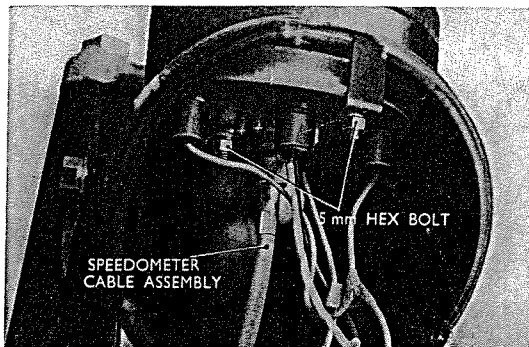

Fig. 4.15 Removing speedometer
6. Remove the head lamp rim, the head lamp sealed beam unit, and two 5 mm hex nuts; remove the speedometer assembly. (Refer to Fig. 4.15)